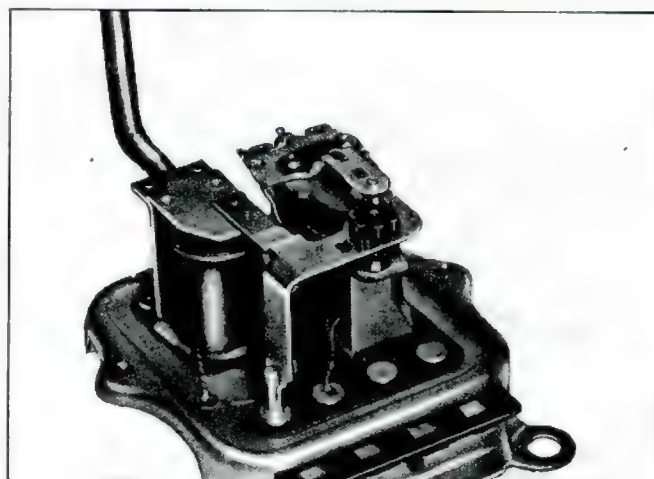

Fig. 12c—Adjusting Field Relay Closing Voltage
4. Slowly decrease resistance and note closing voltage of the relay. Adjust by bending heel iron in the manner illustrated in Figure 12c.